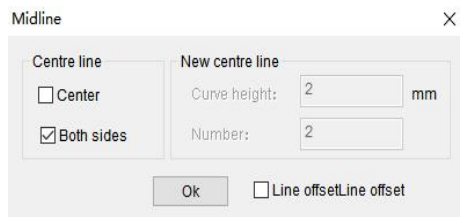

Figure 1
2.Right click on the "center line" position and select the add center line method (as shown in Figure 1).